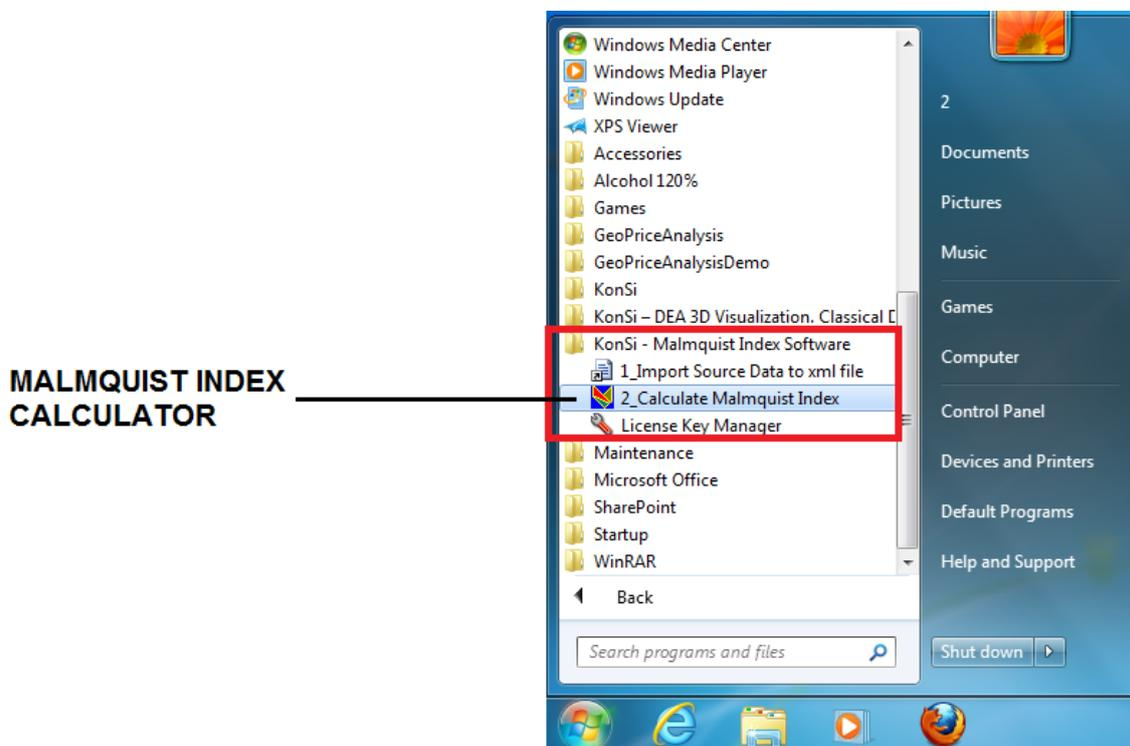

Figure 24 Launching Malmquist Index Calculator from the Start menu
Step 1. To launch Malmquist Index Calculator, click Start, click All Programs, click KonSi – Malmquist Index Software and then click 2_Calculate Malmquist Index (Figure 24).